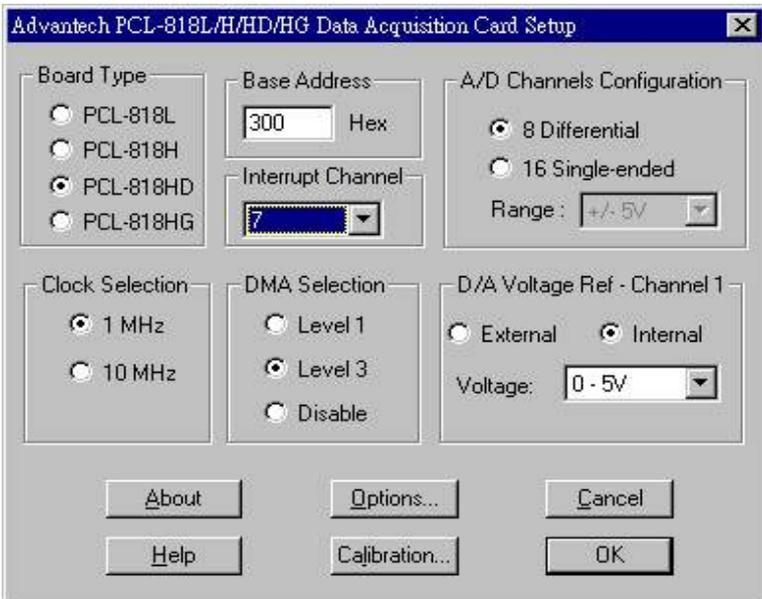

Figure 2.4: Device Setting Dialog Box
Step 3: Scroll down the List of Devices box to find the device that you wish to install, then click the Add... button. You will see a Device Setting dialog box such as the one in Fig. 2-4.
Step 4: On the Device Setting dialog box (Fig. 2-4), you can configure the A/D channels configuration either as 8 Differential or 16 Single-ended, and specify the D/A voltage reference either as External or Internal.